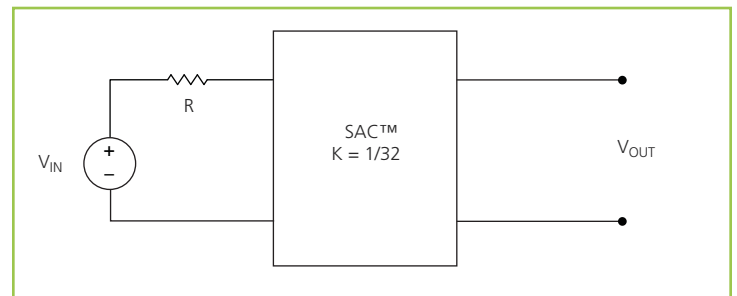

Figure 15 — K = 1/32 Sine Amplitude Converter™ with series input resistor
The use of DC voltage transformation provides additional interesting attributes. Assuming that ROUT = 0 Ω and IQ = 0 A, Eq. (3) now becomes Eq. (1) and is essentially load independent, resistor R is now placed in series with VIN as shown in Figure 15.
Assuming that  $R = 1 \Omega$ , the effective R as seen from the secondary side is  $0.98 \text{ m}\Omega$ , with  $K = 1/32$  as shown in Figure 15.